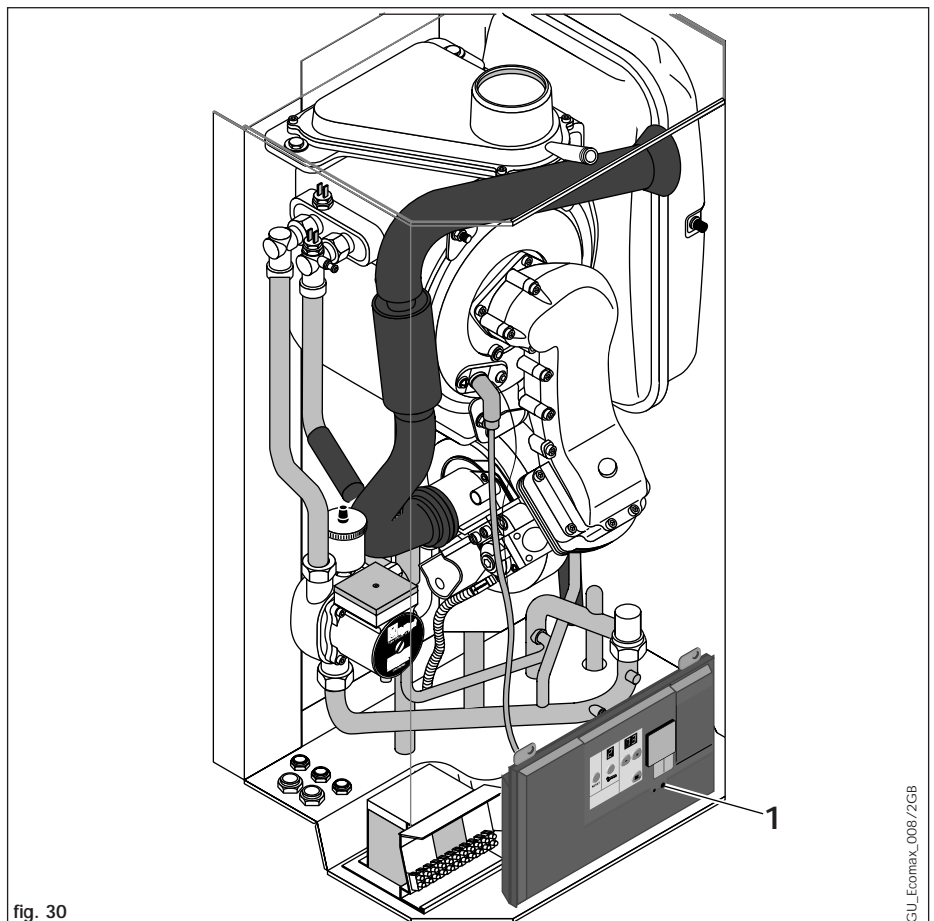

fig. 30
Remove the control panel securing screw (1, fig. 30).
- Raise the control panel and refit the securing screw (1, fig. 30).